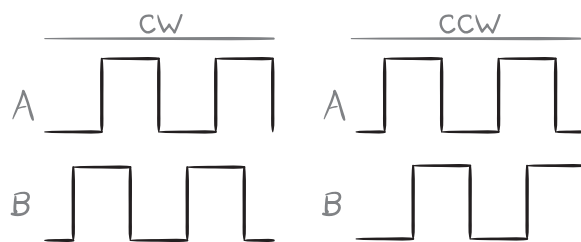

Figure 08.6: quadrature encoding with channels A and B.
The only issue remaining is that a given “blink” doesn’t give one important piece of information: which direction the encoder is rotating. However, a clever technique called *quadrature encoding* can be used to determine direction. The idea is that if we double the number of stripes, but offset the second set by half of a stripe width, then measure both “channels” A and B, then the direction can be determined by which channel “leads” the other. For instance, in Figure 08.6, the encoder output is high when light is detected and low when it is blocked by a stripe. Channel A leads B when the encoder is rotating clockwise (CW) and B leads A when it is rotating counter-clockwise (CCW).